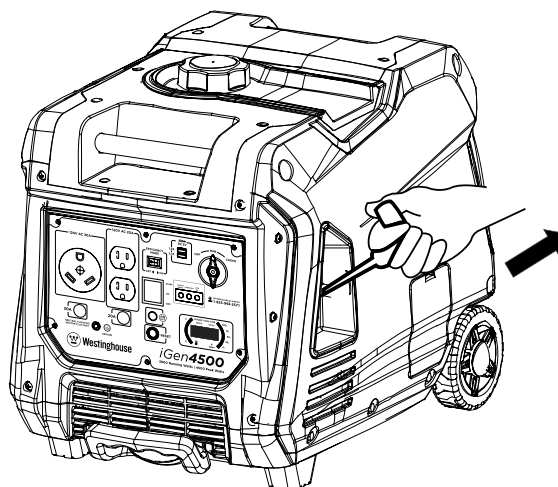

Figure 9: Pull the Recoil Handle out from Inverter
7. Firmly grasp and pull the recoil handle slowly until you feel increased resistance. At this point, apply a rapid pull while pulling out from the inverter (see Figure 9).